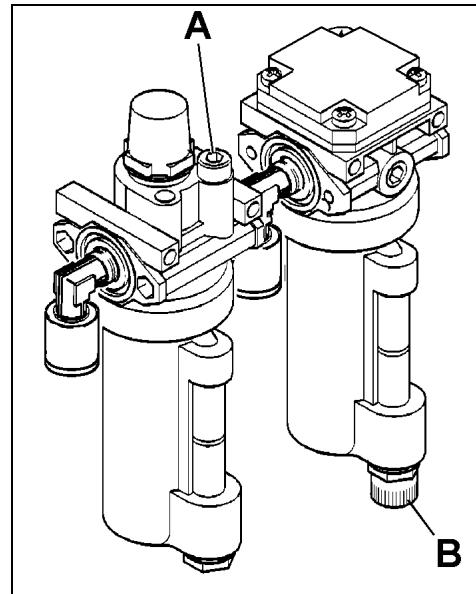

Fig.29
**I.** If the machine is equipped with an automatic air lubricator, check the oil level weekly. When adding oil to the lubricator, disconnect the air supply first, remove the fill screw 'A', and add oil as needed. Make sure seals are in place when replacing the cap. Drain water daily from water separator. Do this by pulling down the fitting 'B' (Fig.29).